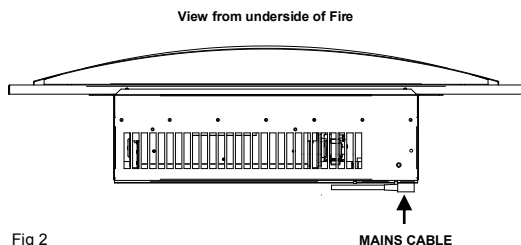

Fig 2
6. Connect the mains cord to the fire **Fig 2**
1. Fix the mains cable to the rear of the appliance. **Fig 2**